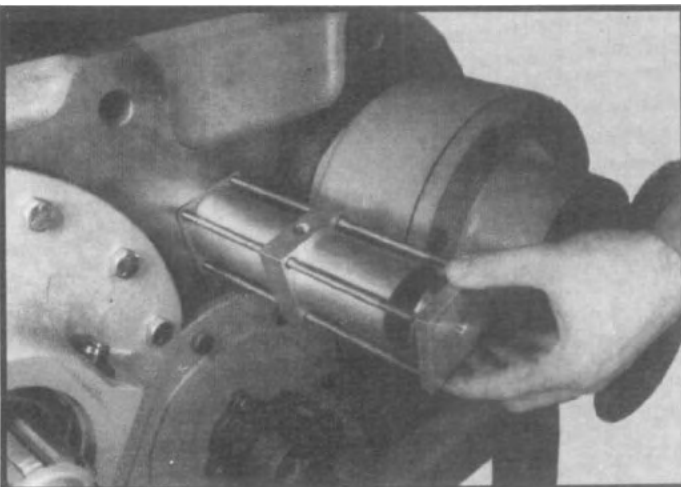

Fig. 202
18. Install o-ring in shift cylinder cap and install shift cap into the cylinder tube. Secure assembly with capscrews or studs with nuts, tightening to correct torque. (See fig. 202 and fig. 203.)